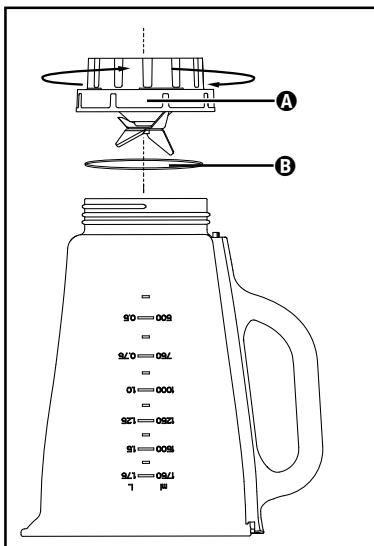

Fig. 3
- 2) Turn the appliance upside down and turn the attachment **A** with the cutting blades **④** anticlockwise so that it can be detached from the blender jug **③** (see fig. 3).